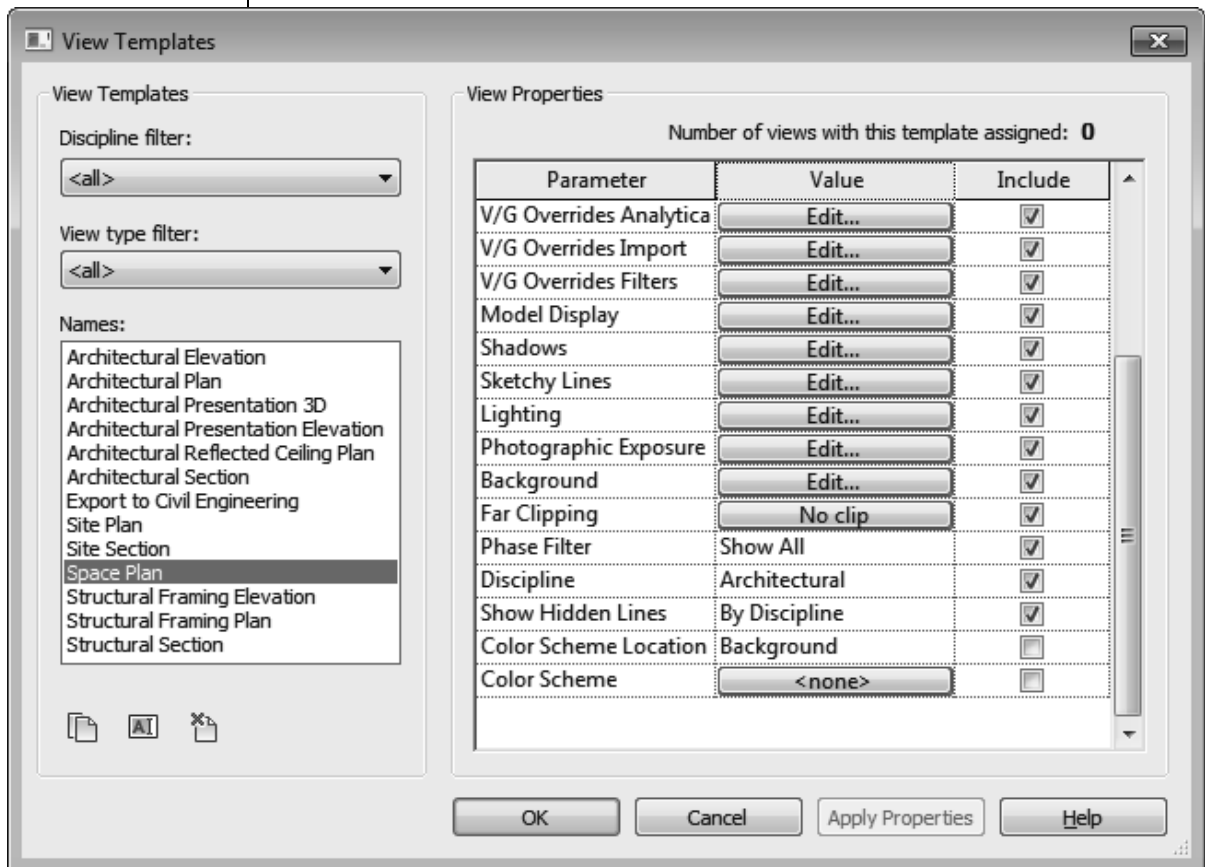

Figure 1–57
4. Select the new view template as shown in Figure 1–57, and modify the View Properties parameter values as needed.